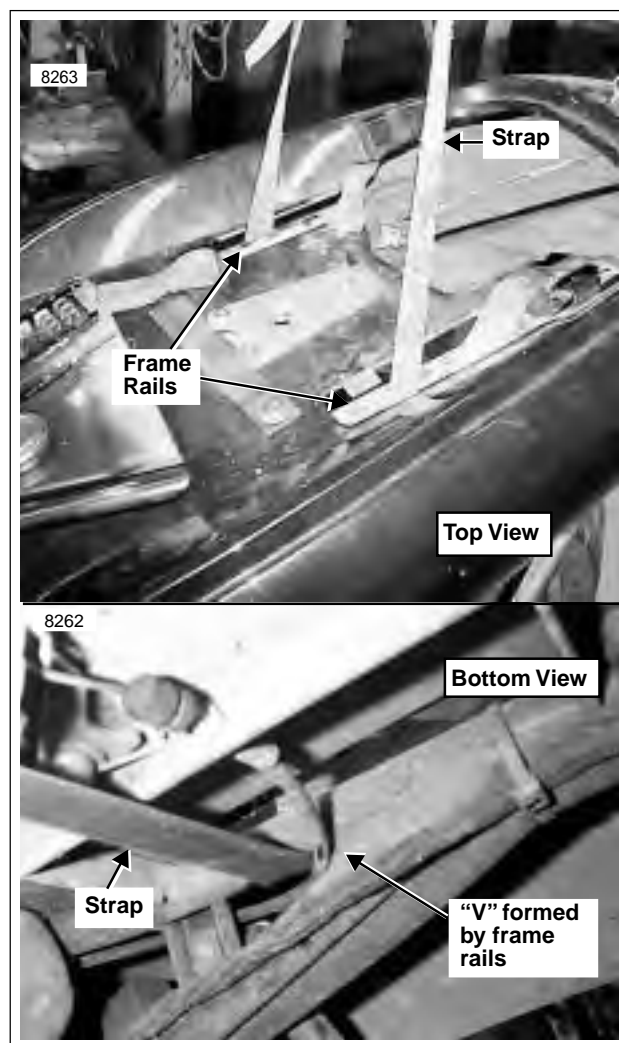

Figure 2-70. Floor Hoist
See Figure 2-70. Route strap under frame rails with tail section installed. Make sure strap is in "V" formed by frame rails to prevent rearward movement and that it does not pinch wiring harness, vent lines or cables.
6. See Figure 2-70. Strap tail section of frame to overhead beam or hoist and put slight tension on strap to secure frame assembly.